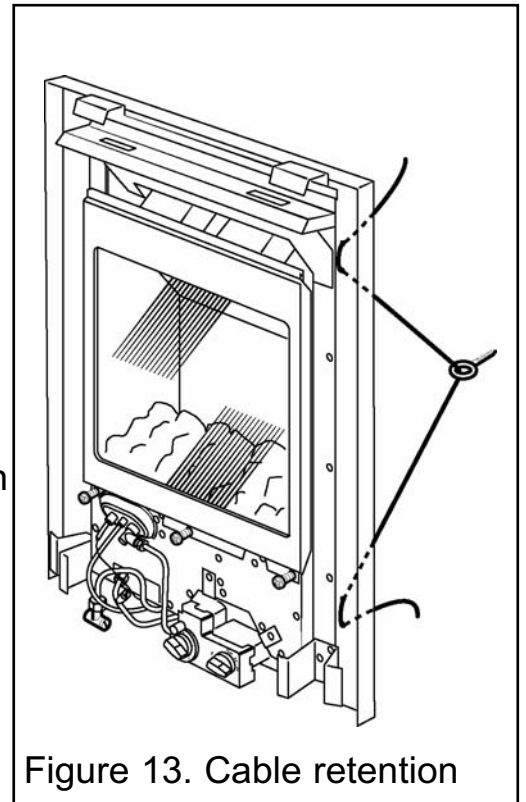

Figure 13. Cable retention
- Thread the two tension cables through the appliance case side holes as shown in figure 13.
- Cable retention: Fit the eyebolts onto the cables. Thread the cables through the appliance case sides as shown in figure 13. Offer the fire complete with flue unit through the wall. Pull the cables taut.